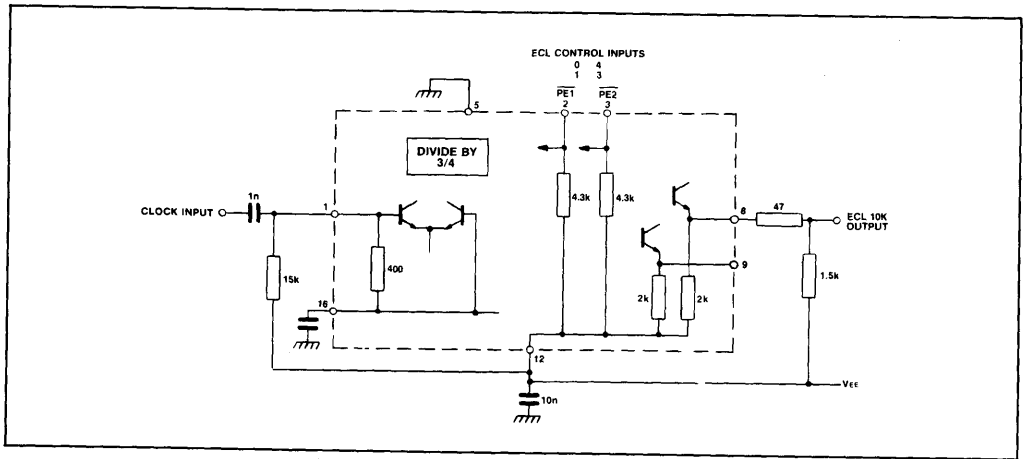

Fig.7 Typical applications circuit showing interfacing
4. The Q and \bar{Q} outputs are compatible with ECL II but can be interfaced to ECL 10K as shown in Fig. 7. There is an internal circuit equivalent to a load of 2k pull-down resistor at each output.